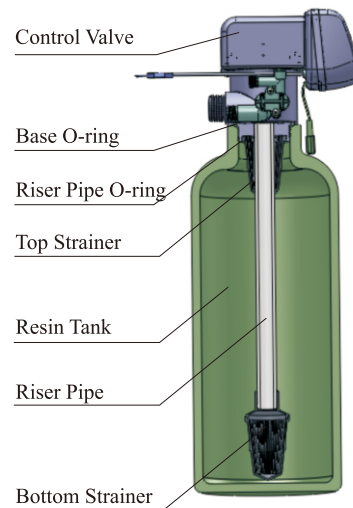

Figure1-1
- ①The filter or softener should be located as close as to drain.
- ②Ensure the unit is installed in enough space for operating and maintenance.
- ③Brine tank needs to be close to softener.
- ④The unit should be kept away from the heater, and must not be exposed outdoor. Sunshine or rain may cause damage to the system.
- ⑤Avoid installing the system in circumstance of acid/alkaline, magnetic or strong vibration, because above factors will cause the system disorder.
- ⑥Do not install the filter or softener, drain pipeline or overflow pipe in circumstance where temperature may drop below 5°C, or above 45°C.
- ⑦Install the system in the place where with the minimum loss in case of water leakage.
①Install control valve
- a. As the Figure 1-1 shows, select the riser pipe with 26.7mm OD, glue the riser pipe to the bottom strainer and put it into the mineral tank, cut off the exceeding pipe out of tank top opening and make external rounding.